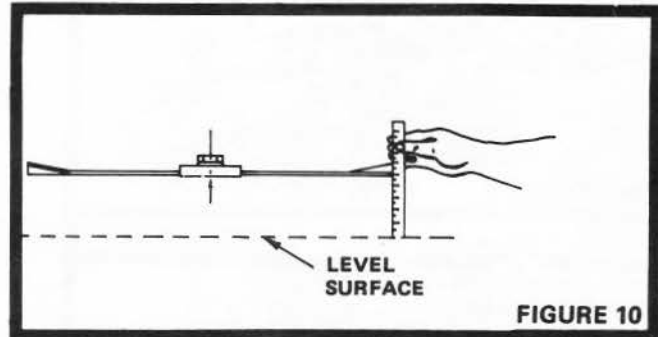

FIGURE 10
3. Measure the height of the tips of outer blades (Fig. 10). Both R.H. and L.H. must be the same distance from level surface within 1/8 of an inch.
1. Your mower should cut approximately 3/16" lower at front than at the rear. With R.H. mower blade in line with length of tractor, measure the height of the front tip of blade (Fig. 10). Rotate blade 1/2 turn and measure. The front tip must be approximately 3/16 of an inch lower at front than at rear.